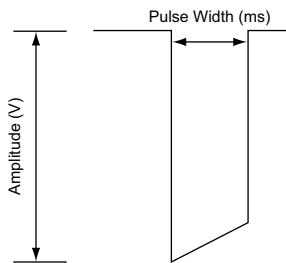

Figure 2-6. Pulse waveform
- The energy delivered to the heart is directly proportional to the pulse width; doubling the Pulse Width doubles the energy delivered. Therefore, programming a shorter pulse width while maintaining an adequate safety margin may increase battery longevity. To prevent loss of capture, exercise caution when you are programming permanent pulse width values of less than 0.3 ms (Figure 2-6 on page 2-11).
The pulse Amplitude, or voltage of the output pulse, is measured at the leading edge of the output pulse (Figure 2-6 on page 2-11).